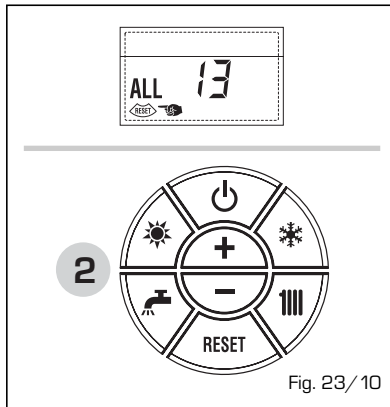

Fig. 23/10
- **ANOMALIA GUASTO SONDA FUMI "ALL 14" (fig. 23/11)**